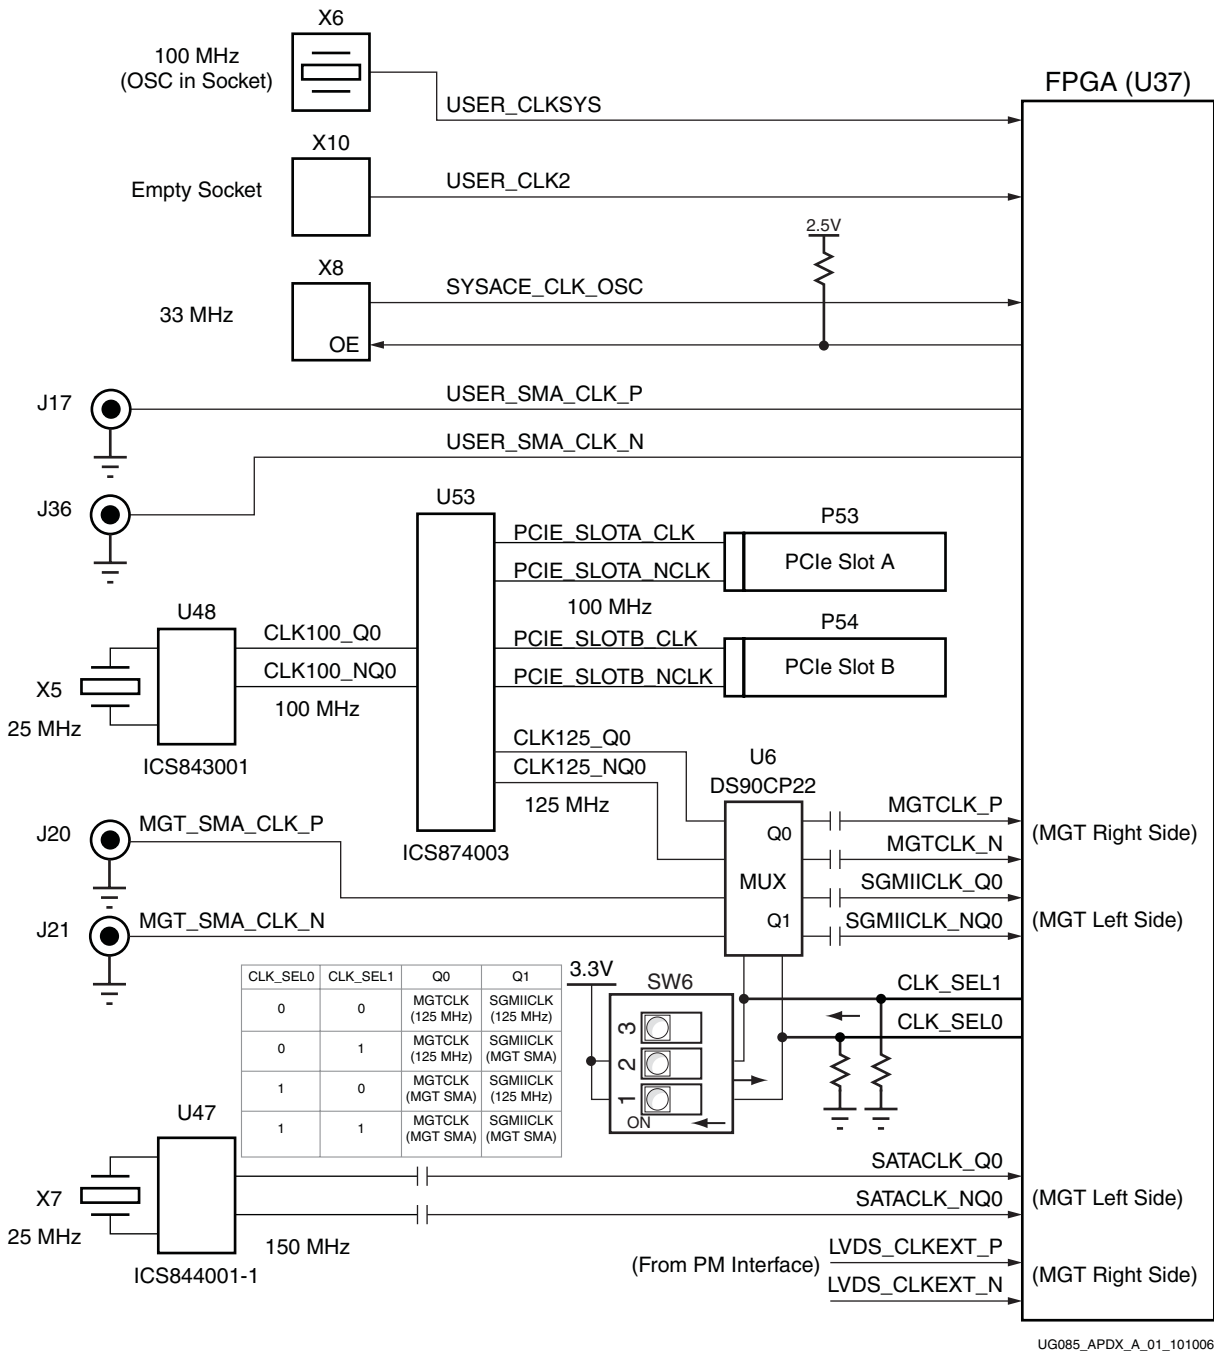

Figure A-1: Clock Distribution for Revisions C and D
3. See Virtex-4 Errata regarding FX GT11 jitter and AR23392 regarding Virtex-4 FX GT11 jitter errata for SGMII. Refer to Figure A-1, page 98 for more details regarding clock distribution on Rev. C and Rev. D boards.
4. See Virtex-4 Errata regarding FX GT11 jitter. Refer to Figure A-1, page 98 for more details regarding clock distribution on Rev. C and Rev. D boards.
The MGT and SATA clock generation and distribution for earlier board revisions (Figure A-1) differs from revision E (Figure 2-3, page 27).
- These clocks are differential pairs through the RocketIO transceivers and are not available on ML410-P boards. See Figure A-1, page 98.